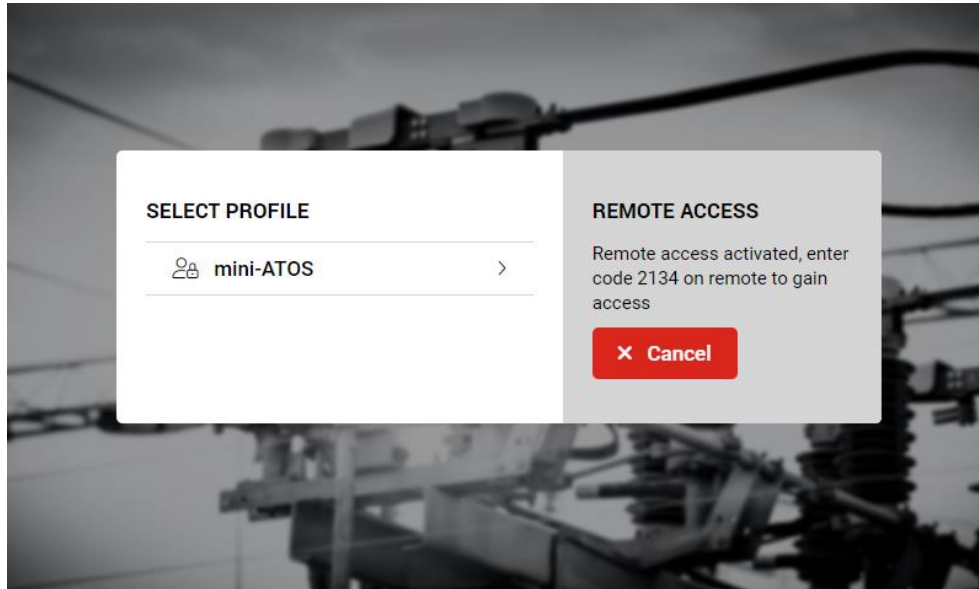

Figure 71: Remote access activated with an auto-generated key on the mini-ATOS display
- 4- Activate remote access on the select profile page. If you didn't input the access key manually in the settings, you will see then the auto-generated access key (Figure 71)